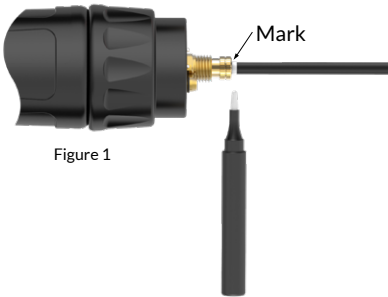

Figure 1
- Ensure the liner is under slight compression within the torch conduit and the front nipple can be seen through the tip adaptor holes. Mark the position at the rear of the liner nipple (Figure 1).